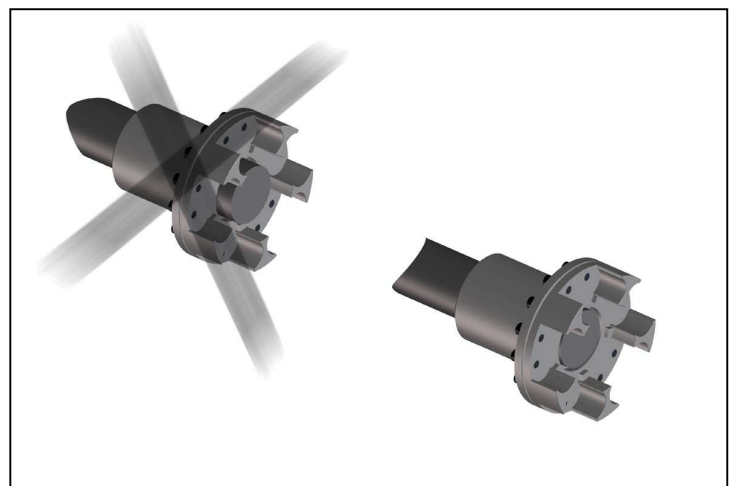

Fig. 5
- Mount the hubs in such a manner that the shaft end is flush with the inner bore opening (Fig 5). Protruding shaft ends prevent radial mounting and dismounting of the claw rings. Observe deviant agreements, which may exist!